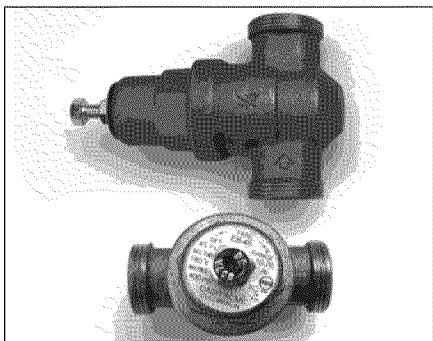

Figure 3 - Install a Pressure Reducing Valve set to 50 to 60 PSI.
- Pressure Reducing Valve (Figure 3 on page 8)